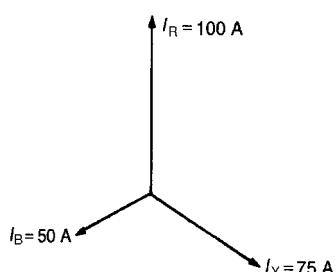

Figure 20.8
- The three line currents are shown in the phasor diagram of Fig. 20.8 Since each load is resistive the currents are in phase with the phase voltages and are hence mutually displaced by 120° . The current in the neutral conductor is given by $I_N = I_R + I_Y + I_B$ phasorially.